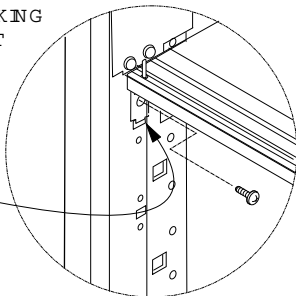

FIG. 9A
4. On locking units, re-install previously removed lock clip. Open the drawer below binder storage module, and slide clip up through hole in door track, slip tab on lock clip into square hole in lock bar. Using one (1) #10-24 x 1/2" screw, attach lock clip to locking bar channel. Repeat this process on lock bar on opposite side of cabinet. Check lock for smooth operation, adjusting as required (Fig. 9A).